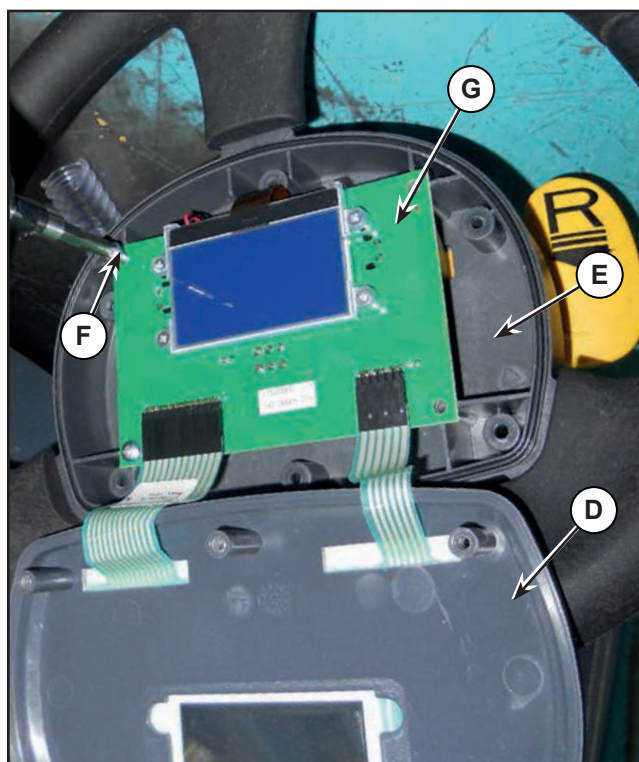
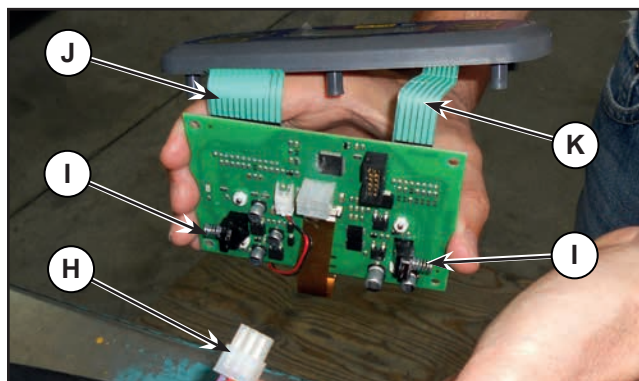

Figure 17:
Figure 18:
6. Lift the cover of the User interface controller (D, Figure 17) and recover the gasket (E).
7. Remove the screws (F) and remove the Display controller (G).
8. Disconnect the connection (H, Figure 18).
9. Recover the springs (I) of the microswitches.
10. Disconnect the flat connections (J) and (K) from the Display controller (EB2).